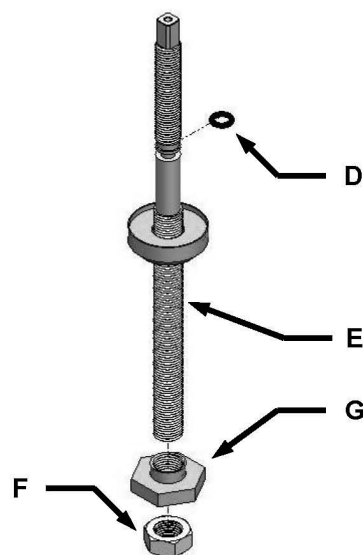
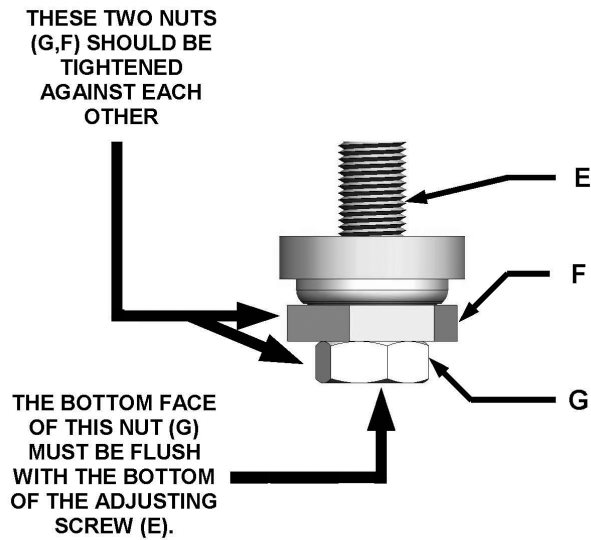

Figure 14: Adding aluminum bearing nut
Figure 15: Tightening the bearing nut
Slide a -108 O-ring (D) onto the adjusting screw (E) (as shown in Figure 14). Slide the bearing case assembly onto the adjusting screw (E). Thread the aluminum bearing nut (G) onto the screw (E) from the bottom. Leave some room below the bearing nut (G). Thread 1/2-20 SS left-hand jam nut (F) onto the screw (E). The jam nut (F) and bearing nut (G) should be tightened against each other as shown in Figure 15.